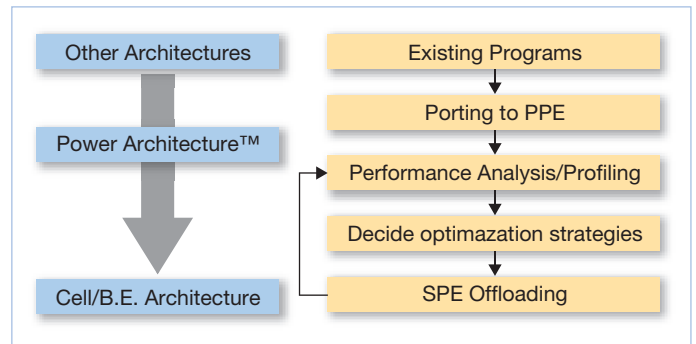

Fig. 4 Basic process of optimization
In optimized porting of existing programs, it is important to understand how multiple SPEs are used. The basic optimization process of existing programs with the Cell/B.E. consist of three processes: (1) porting to PPE, (2) performance measurement and profiling, and (3) offloading to SPEs (Fig. 4). SPE offloading ports part of the processing in a program to the various SPEs. In the optimization process, a spiral type process is generally used, where profiling is performed again after optimization. Then, further optimization in performance is possible.